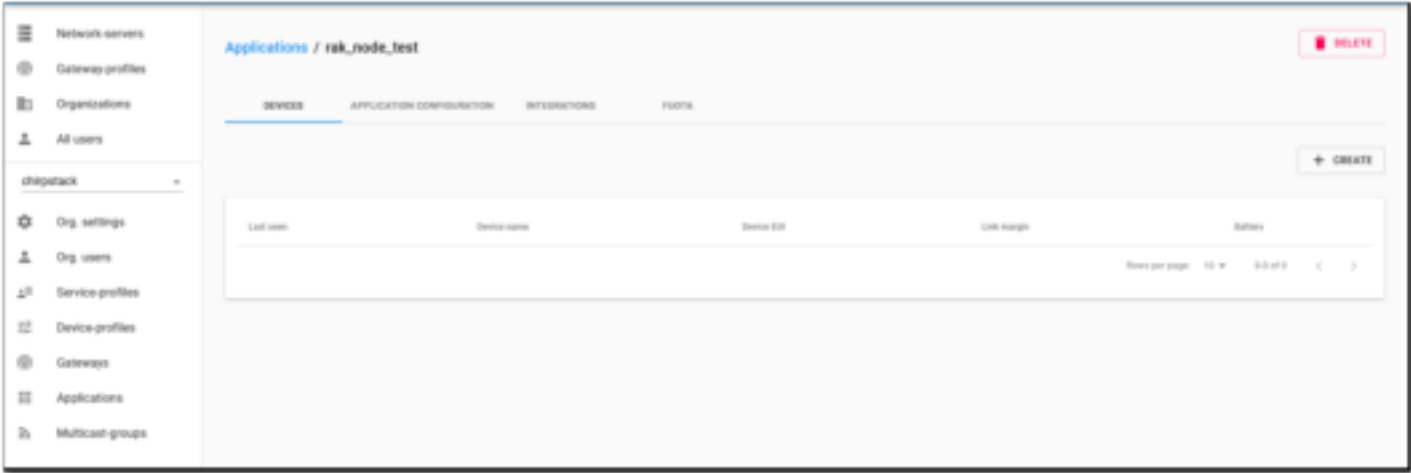

Figure 73: Device Tab of an Application
2. A previously created Application Key can be entered here, or a new one can be generated automatically by clicking the icon highlighted in red in **Figure 73**.